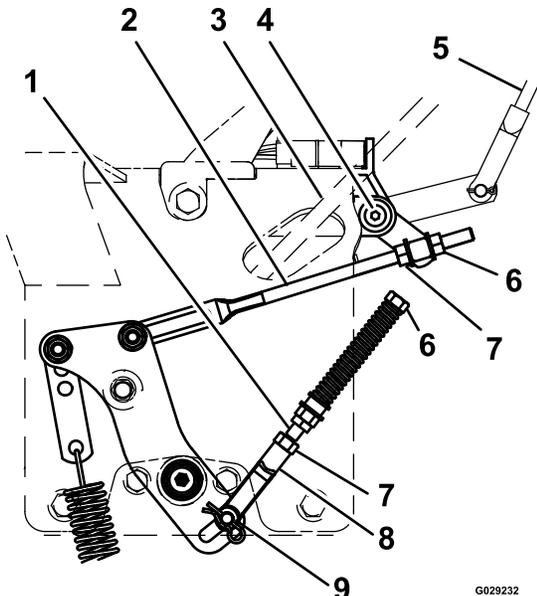

Figure 15
- Loosen the nut against the neutral control linkage yoke as shown in Figure 15.